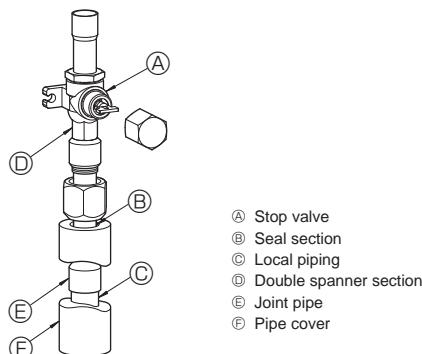

Fig. 4-3
③ Use the following procedure for connecting the gas-side piping. (Fig. 4-3)
- Braze the ④ Joint pipe provided to the outdoor unit using locally procured brazing materials and ⑤ Local piping without oxygen.
- Connect the ⑥ Joint pipe to the gas-side Stop valve. Use 2 wrenches to tighten the flare nut.
- (A) Front piping cover
- (B) Piping cover
- (C) Stop valve
- (D) Service panel
- (E) Bend radius : 100 mm - 150 mm